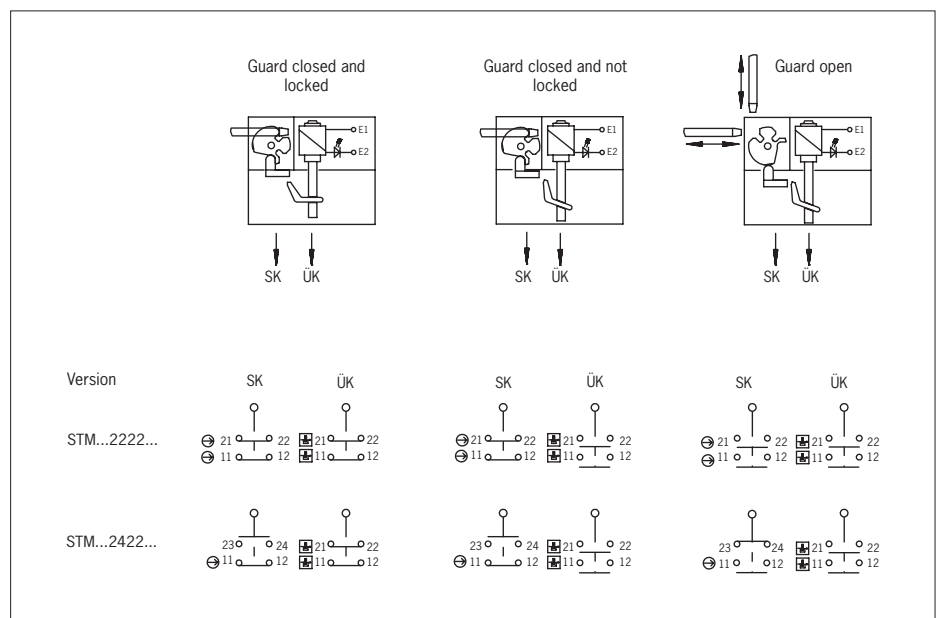

Fig. 4: Switching elements and switching functions
At least one contact () must be used. Contacts with the  symbol can also be used (for terminal assignment, see Fig. 4).
3. Connect and tighten terminals with 0.5 Nm (for terminal assignment, see Fig. 4).